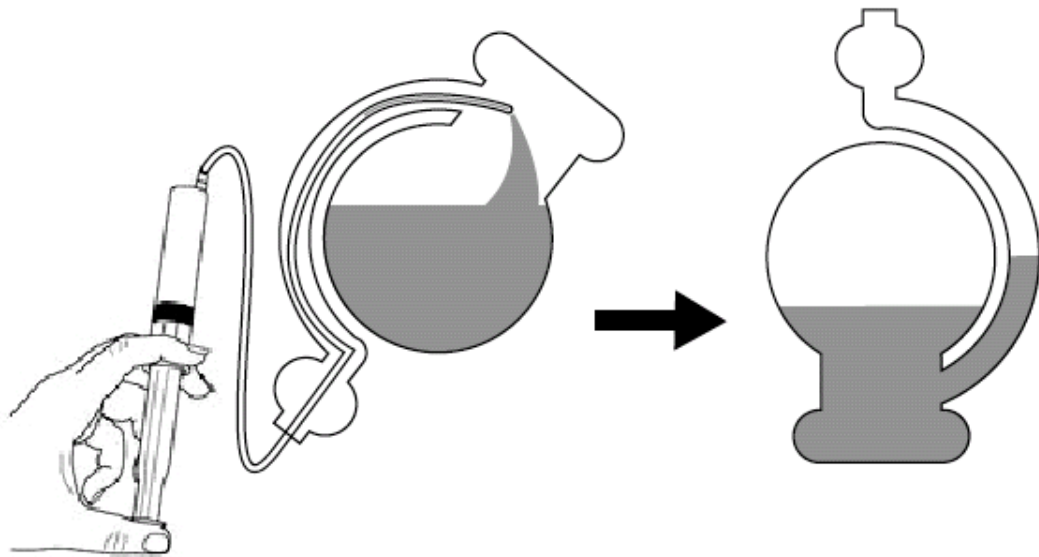

Figure 1
5. Slowly inject the liquid into the storm glass until half of the bulb is filled, as shown in Figure 1.